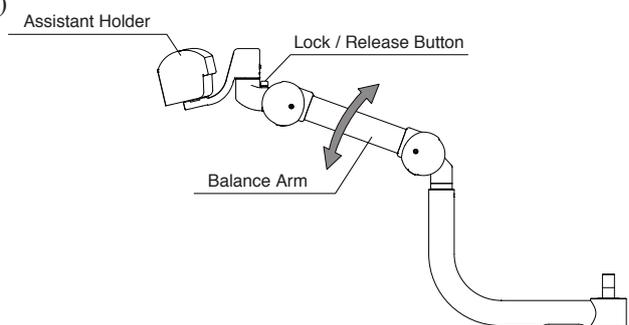

Fig.3-24 Height Adjustable Assistant Arm
(7) Height Adjustable Assistant Arm (Optional) (Fig.3-24)